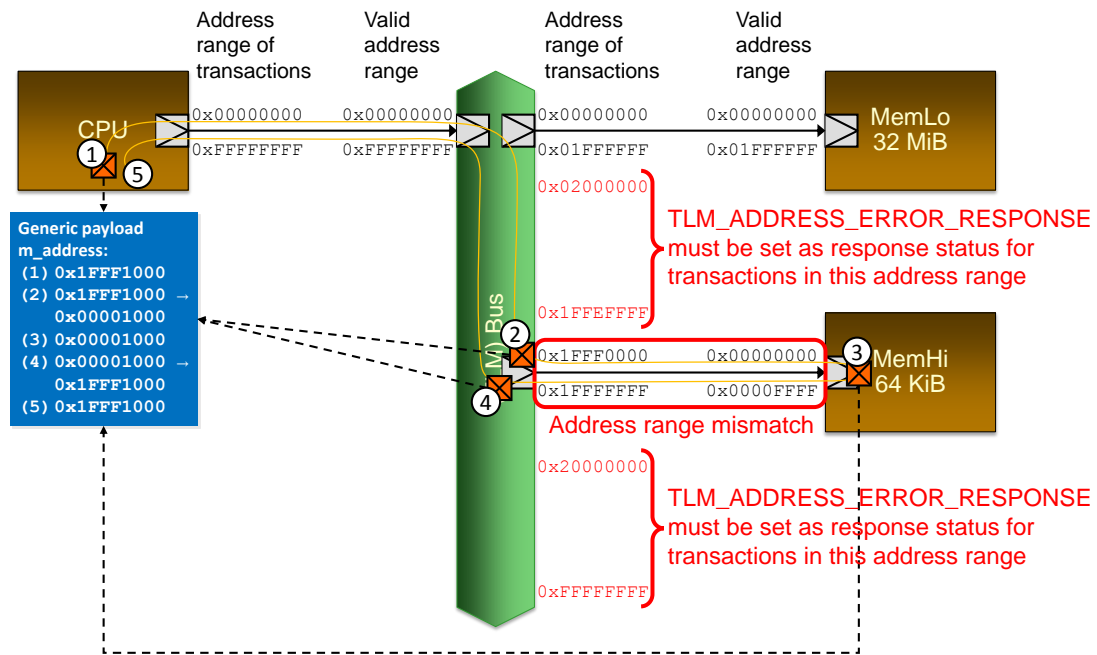

Figure 6: Example of address rewriting for a transaction accessing memHi
- g) Implement address rewriting and the search for the right TLM initiator socket as a method called `decode` that can be used by the TLM interface methods `b_transport`, `transport_dbg`, and `get_direct_mem_ptr`. To exemplify, consider the transaction with address `0xFFFF1000` shown in Figure 6 that the CPU initiates at point ①. Clearly, the CPU can initiate trans-